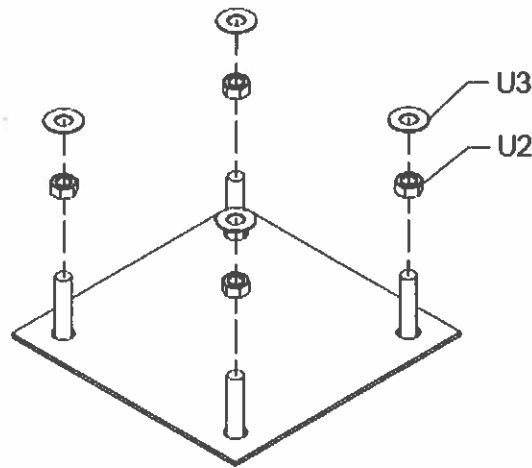

FIGURE 1A
- a. Slide a 18mm thick washer (U3) over each of the J-Bolts (U2) as shown in FIGURE 1A.